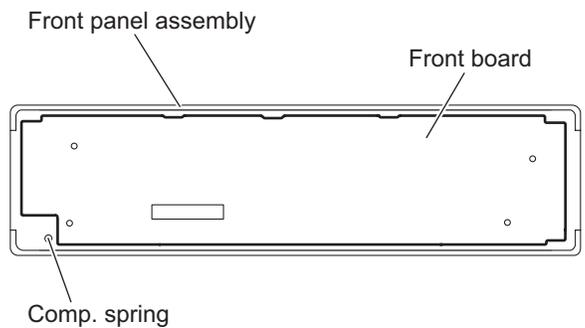

Fig.17
- (3) Take out the front board from the front panel assembly. (See Fig.17)
When removing the rear cover assembly and front board, be careful not to lose the comp. spring. (See Fig.17)